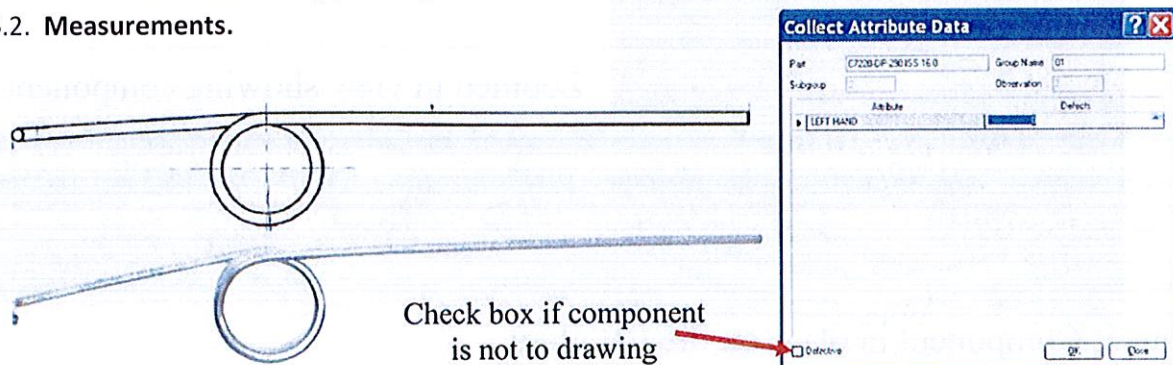

Figure 3: Confirming that the component has been correctly formed.
**6.2.1.Left Hand.** Confirm that the component has been formed with the wire wound in the direction indicated on the drawing, if the component is as per drawing, click the 'OK' box, if the component is not as per drawing, click the defective box before clicking the 'OK' box, as shown in Figure 3: The section lead, and QA must then be informed.